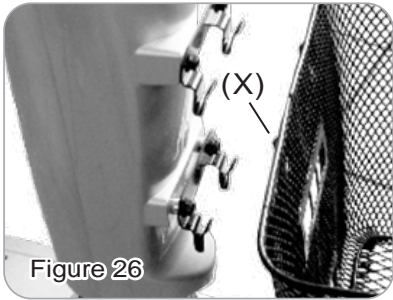

Figure 26
Disassemble Front Basket (X). (See Fig. 26).